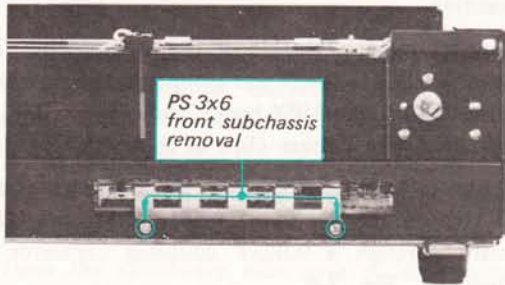

Fig. 2-10. Front subchassis removal
3. Remove the two screws shown in Fig. 2-10. This frees the front subchassis with dial cord.